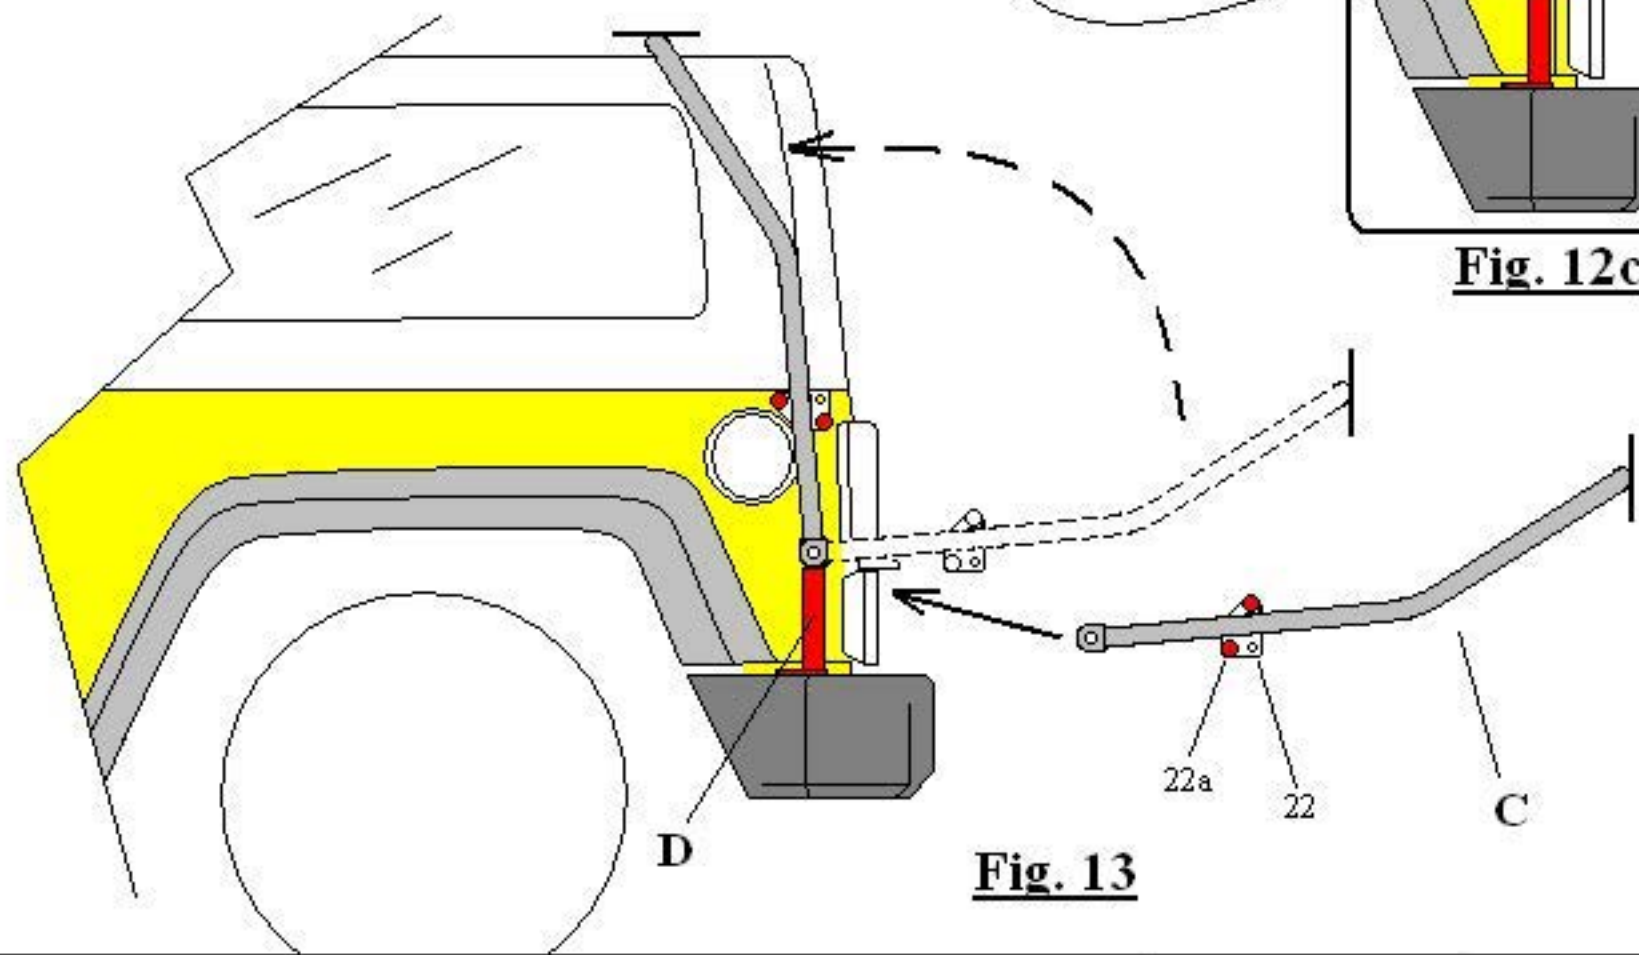

Fig. 13
- 14- Refer to page 8 Fig. 12a if available apply a small amount of grease over the inside flange of the plastic shoulder washers (15) to hold in place then place one shoulder washer (15) to each side of collar (11) of Support Tower (D) as shown in Fig. 12a. Apply the same procedure to both support towers (D) at this time. Using two persons attach the Rear Roof Rack Support Bar (C) in the direction as shown in Fig. 13 page 8 to the support towers (D). While the rear roof rack support bar is horizontal as shown in Fig. 13 thread in place one side at a time 1/2" bolt (19) through 1/2" grade 8 hard washer (16) and finally thread into Nylock nut (18) finger tighten only at this time. Apply the same procedure to the opposite side of support bar (C) and snug down both bolts (19) at this time. Pivot the roof rack support bar (C) up and lay over the vehicle roof top. If a hard top is present place a rag or towel between the support bar (C) and roof top to prevent marring of the paint.